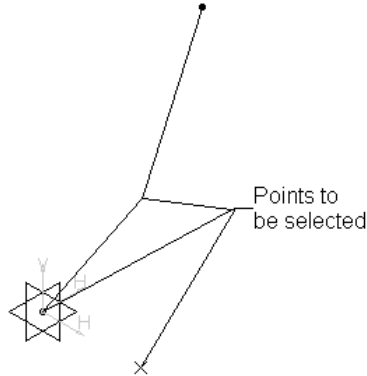

Figure 6-77 Points to be selected to create a plane
4. Create a plane by selecting three points, as shown in Figure 6-77.